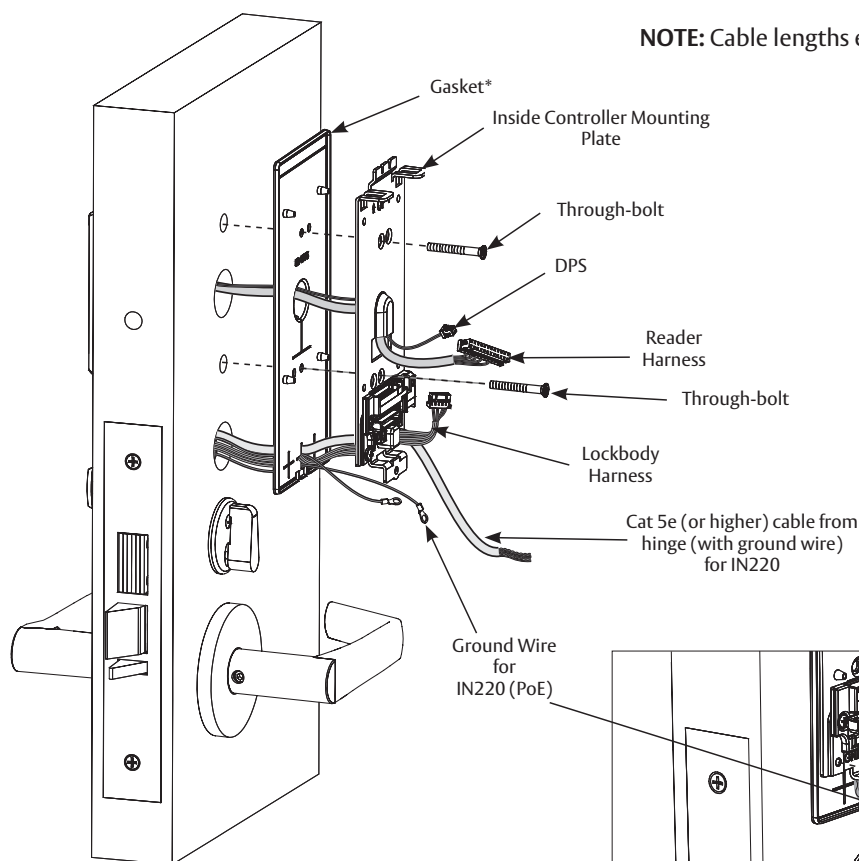

Figure 6-2A
3. Insert and partially tighten two (2) through-bolts prior to installation of connectors.
4. Secure ground lug(s) with #6-32 machine screw. (Figure 6-2A)